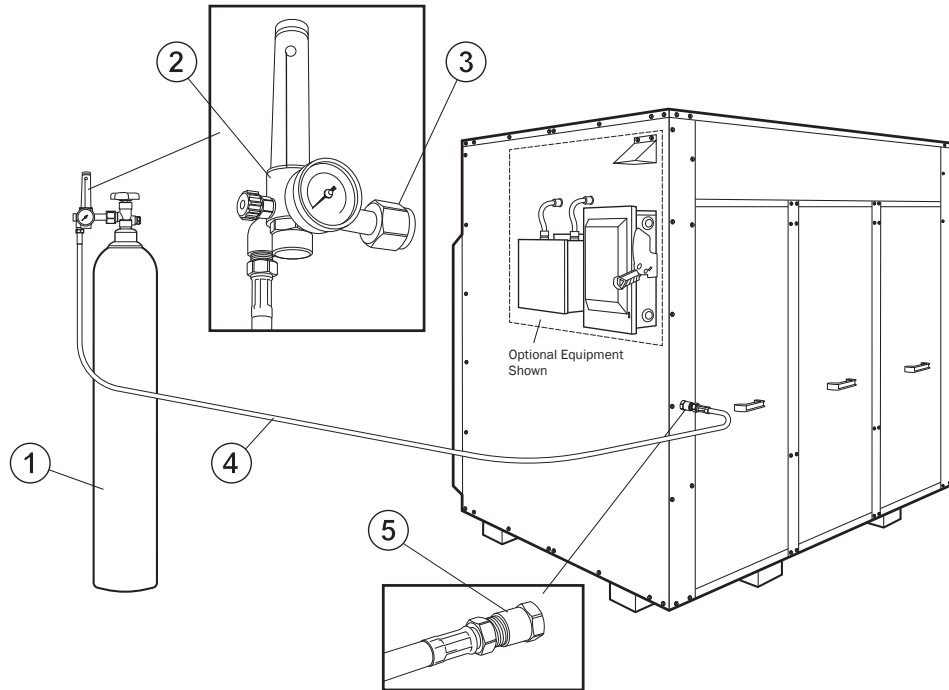

Figure 18 - CO₂ Enrichment Option When Used With Tank
The unit is supplied with controls to inject CO₂ into your grow room space. When optional, a bulkhead fitting ⑤ (Figure 18) is installed on the Desert Aire unit. In addition, Desert Aire provides the following for field installation: a pressure and gas flow regulator ② (Figure 18), hose for connection to the CO₂ container ④ (Figure 18) and a wall mount CO₂ sensor. Please note the CO₂ and CO₂ tank ① (Figure 18) are supplied by the customer.
Desert Aire has provided a gas flow regulator ② ③ (Figure 18). This needs to be installed in the field on the customer supplied CO₂ tank ① (Figure 18). Install supplied plastic washer into fitting and thread onto tank. Note that additional washers are included in the package. Use only one washer and retain additional washers for later use if the original becomes worn or damaged.
Desert Aire has provided a connection hose ④ (Figure 18). This needs to be installed in the field to connect the customer supplied CO₂ tank ① (Figure 18) to the Desert Aire unit at the label "CO2 Connection" ⑤ (Figure 18). Note for GR Series units the connection can be found on a spacer panel just upstream nearest the fan on the opposite side of the electrical section. This allows for the connection hose to either be routed through the cabinet sidewall or through the bottom of the unit depending upon the application.